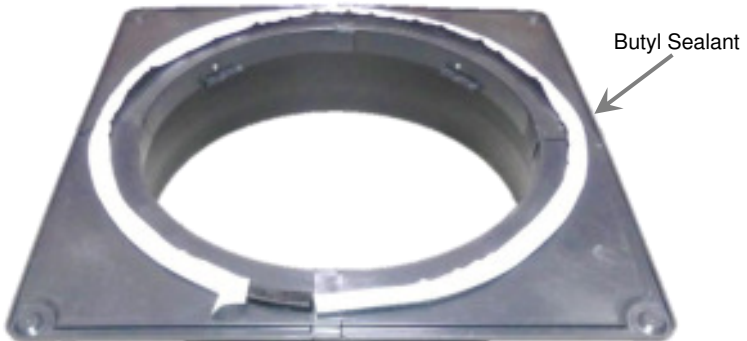

Figure 12
- 11.) With the white tape upward, apply the remaining butyl sealant rope around the groove on the bottom of the adapter flange; overlapping and kneading the ends of the butyl rope together (Fig. 12). Remove the white tape from the sealant rope and discard the tape.